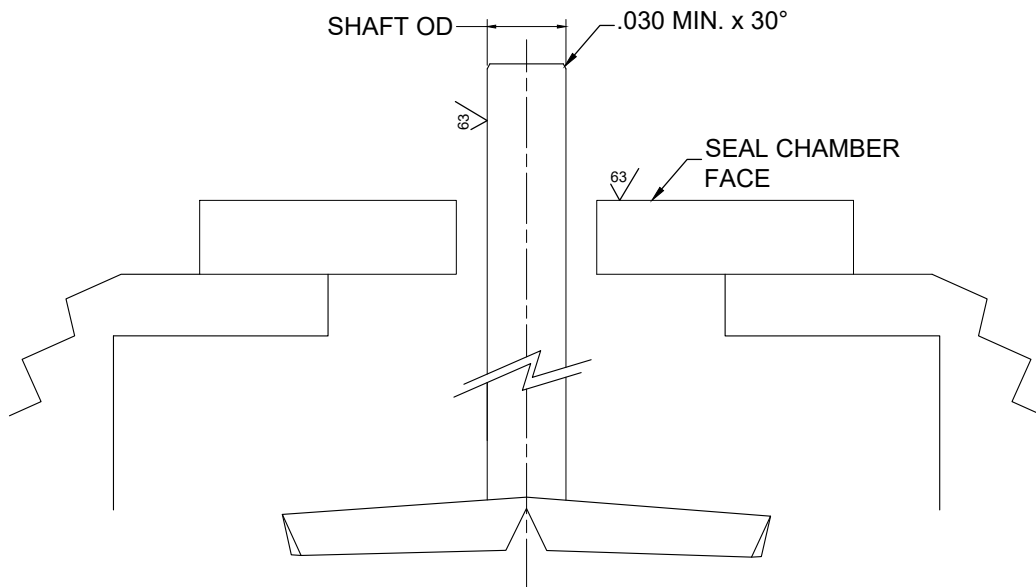

Figure 1: Surface finish and chamfer locations.
5. Sealing surfaces and the shaft or shaft sleeve must have at least a 63 Ra- $\mu$ m surface finish as seen in Figure 1.
6. For ease of installation, the leading edge of the shaft or sleeve should be chamfered as shown in Figure 1 and all parts should be deburred.